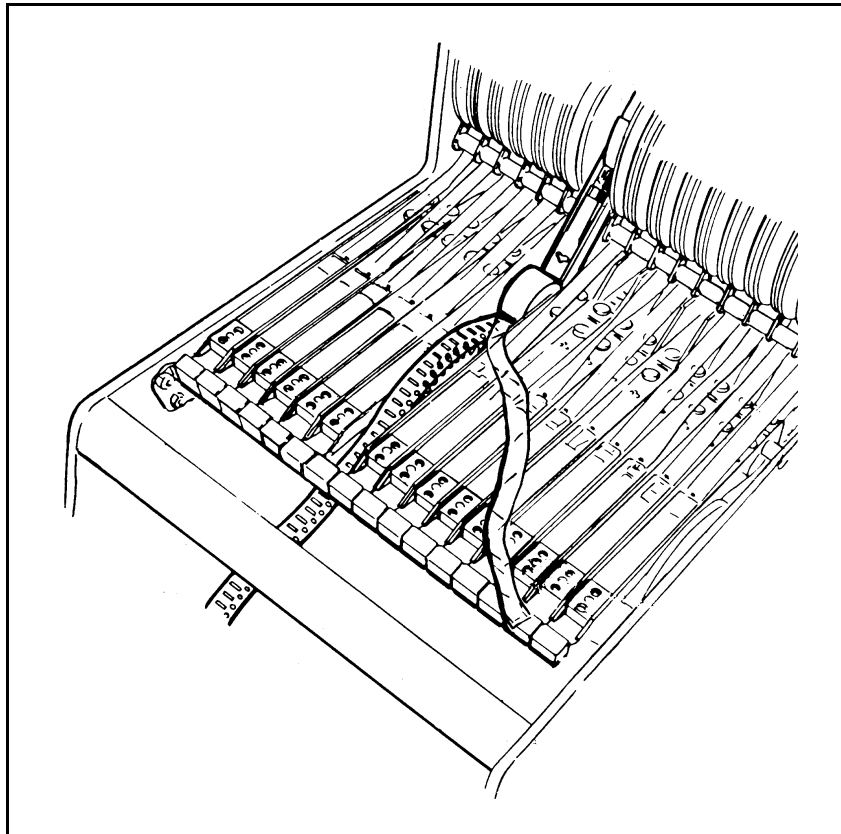

Figure 5-29. Positioning the tape in the feeder.
7. Load the component reel into the magazine and pull the tape (together with the cover tape) to the feeder rail (see Figure 5-29).